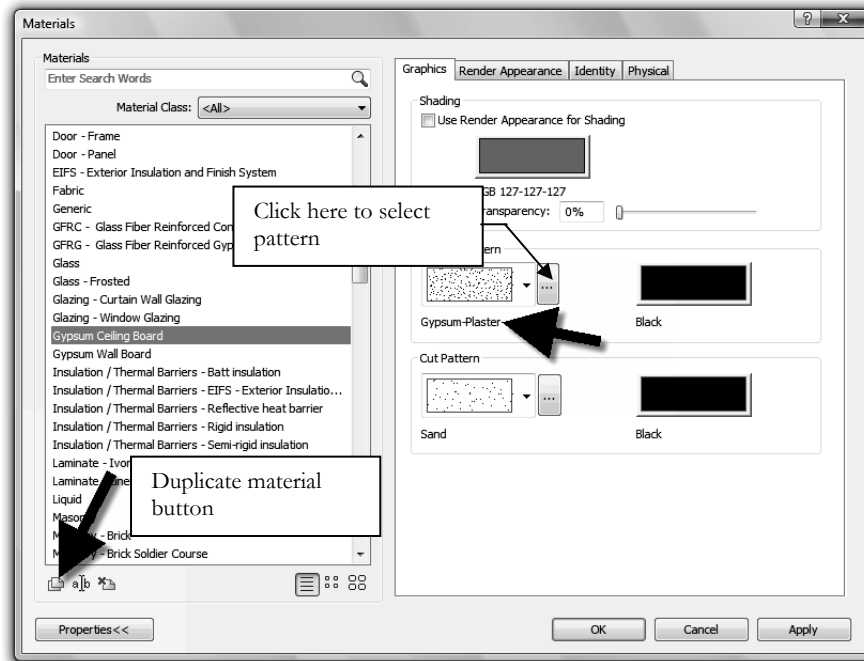

FIGURE 7-4.8 Materials dialog
14. Select *Gypsum Wall Board* in the *Name* list and then click the **Duplicate** button and enter the name: **Gypsum Ceiling Board** (see Figure 7-4.8 and image to right).
15. In the *Surface Pattern* area, pick the button and select **Gypsum-Plaster** from the list, and then click **OK** twice (Figure 7-4.8).